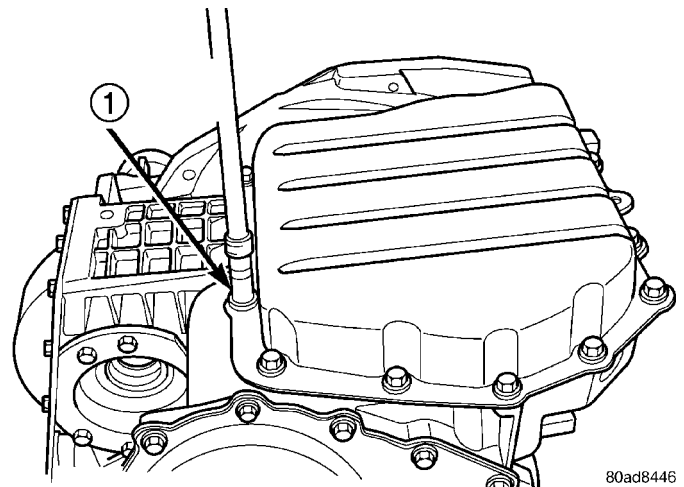

Fig. 16 Remove Oil Pan Bolts
(4) Remove oil pan-to-case bolts (Fig. 16).